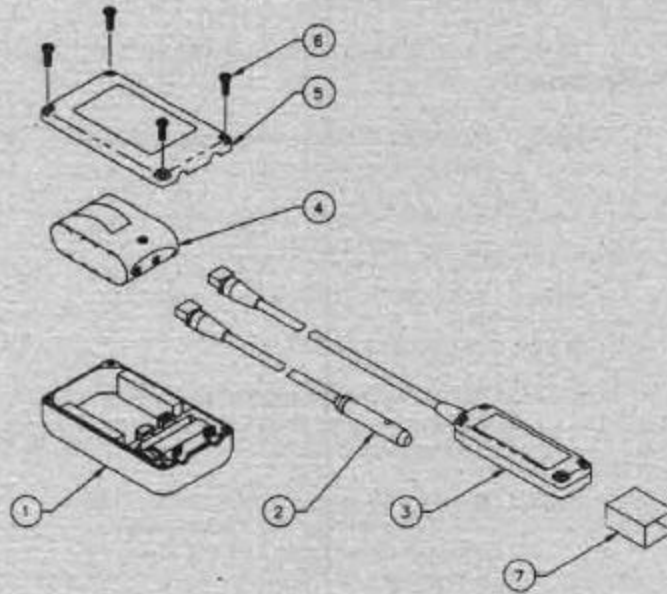

Figure 10
8.1 This section shows the illustrated parts breakdown (see Figure 10).